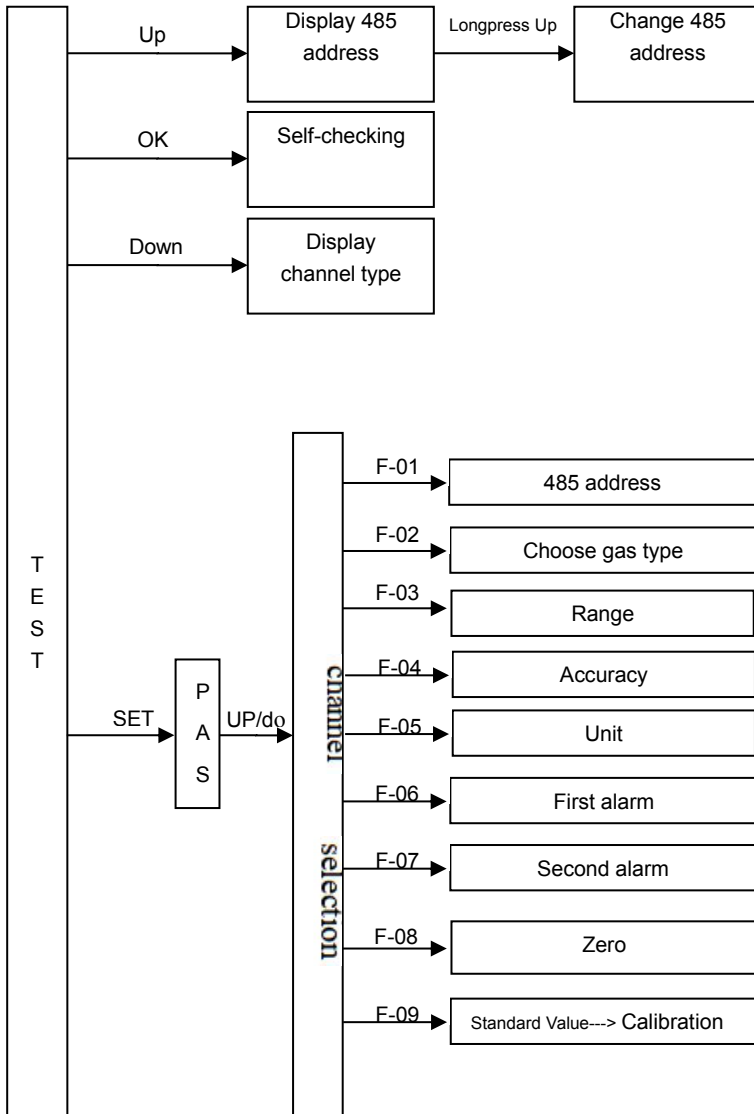

Fig 5.
7.2.2 Function level diagram as shown in fig 5: